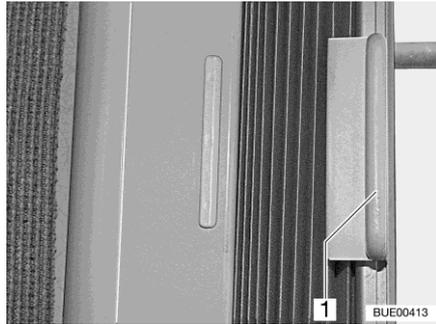

Fig. 32 Roman shade (side window)
- Opening and closing: ■ Grasp the handle (Fig. 32,1) of the Roman shade and slide to the left or the right.